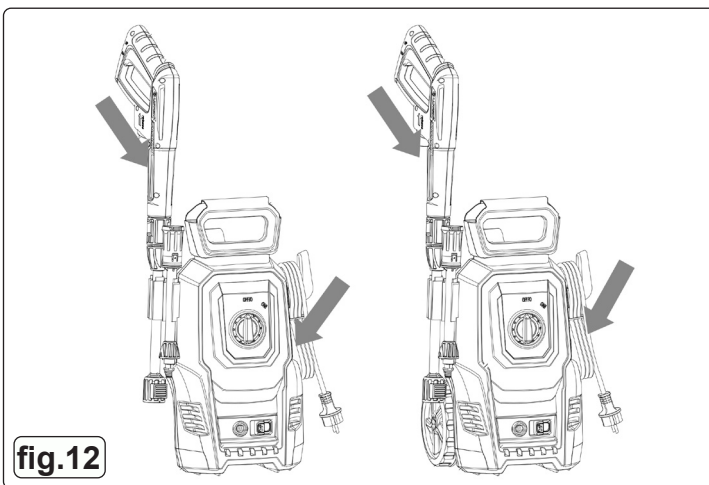

fig.12
6.7. PLACEMENT OF ACCESSORIES ON THE MACHINE FIG.12